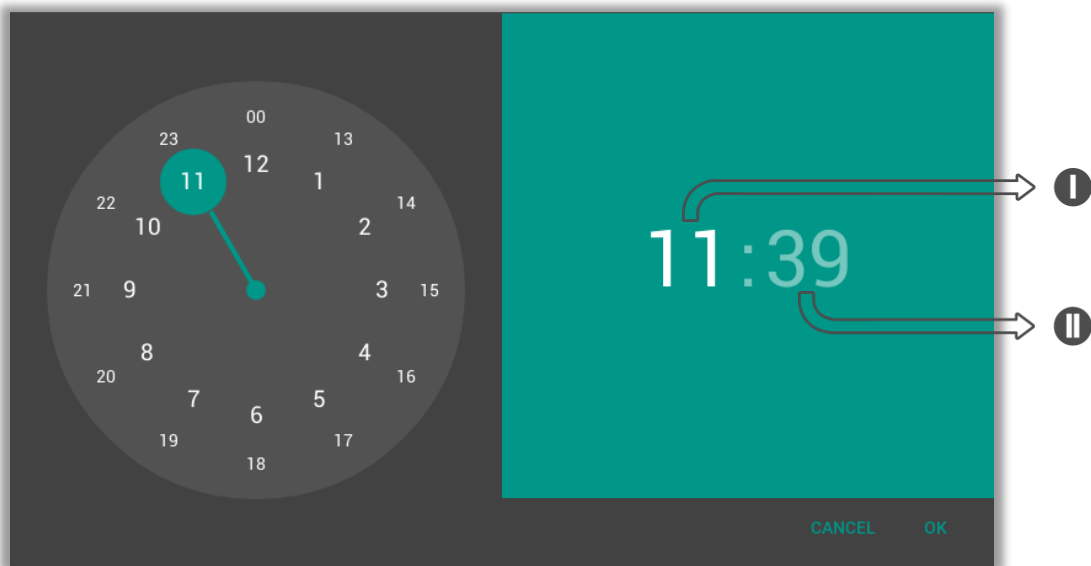

Fig. 62: Time Window
After pressing the button, the Time Window in Figure 62 appears on the screen. This window consists of two parts, an analogue clock on the left and a digital clock on the right. The set time is displayed in the digital clock section. An hour or minute setting selection is made from the digital clock. Click on it to set the hour (I) or minute (II). The time is set from the analogue clock part.